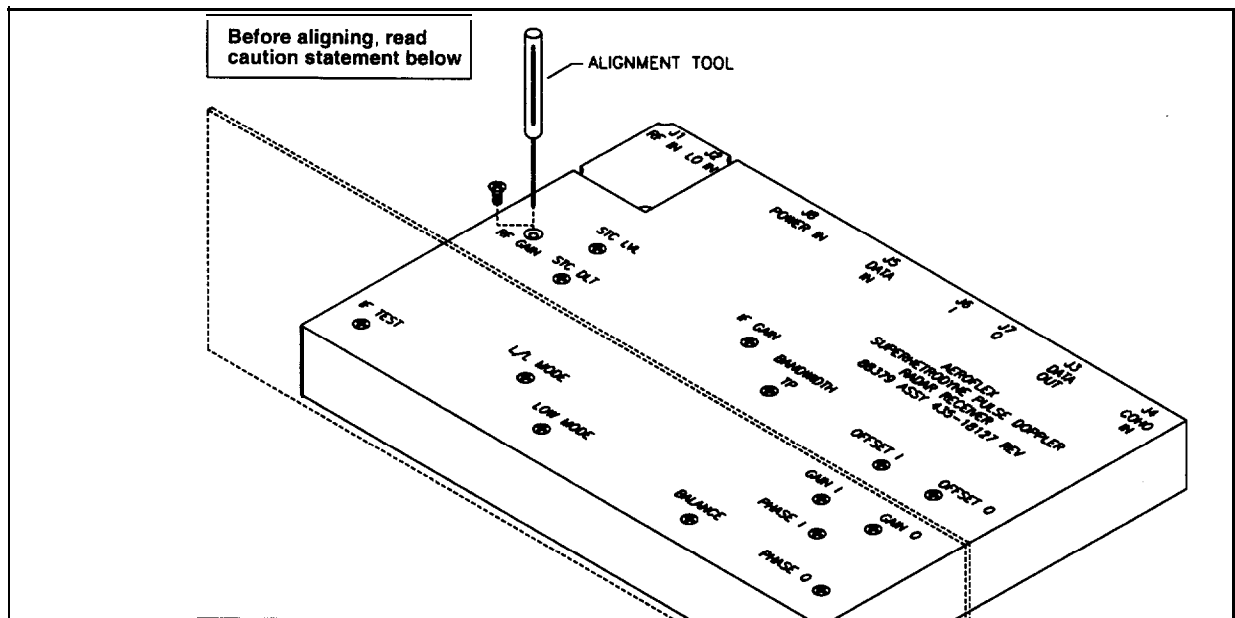

Figure 3 Receiver Gain Adjustment
2. Remove the port-screw from the top of the receiver labeled RF GAIN and carefully insert the alignment tool in the hole as shown in Figure 3. Since the pot is not visible, it is necessary to rely on the “feel” to seat the alignment tool in the potentiometer screw head.
6. Remove the two screws from the STC LVL (level) and STC DLT (delay) ports on top of the receiver. Refer to Figure 3.
10. To adjust the *STC Level*, carefully insert the alignment tool into the *STC LVL* port on top of the receiver (see Figure 3).
11. To adjust the *STC Delay*, carefully insert the alignment tool into the *STC DLT* port on top of the receiver (see Figure 3).